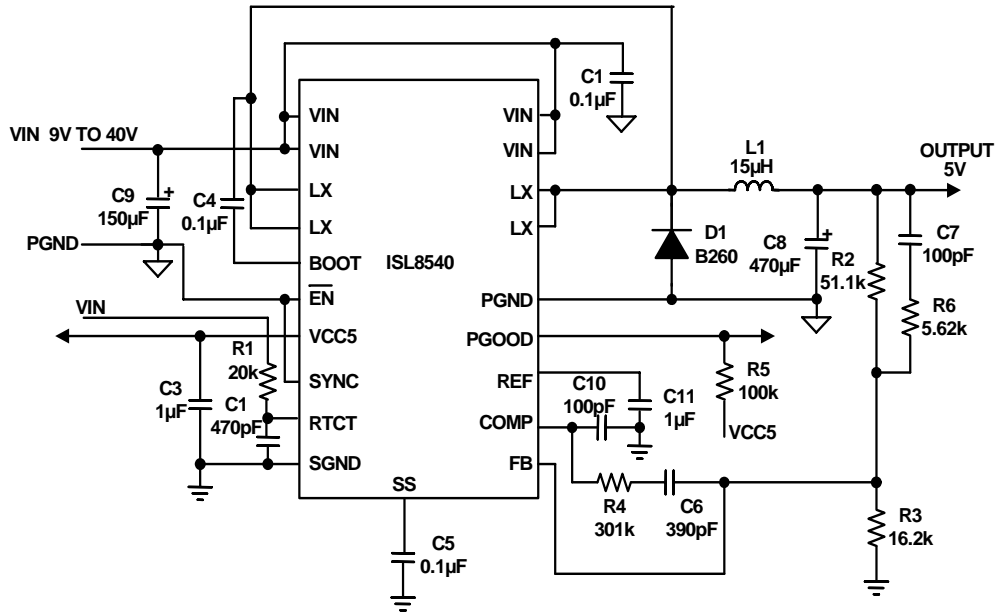

FIGURE 2. TYPICAL SCHEMATIC FOR ISL8540 (5V VOUT)
**Typical Performance Curves** Circuit of Figure 2,  $V_{IN} = 24V$ ,  $\overline{EN} = 0V$ ,  $FS = 500KHz$ ,  $V_{OUT} = 5V$ , unless otherwise noted. Typical values are at  $T_A = +25^\circ C$ .
**Typical Performance Curves** Circuit of Figure 2,  $V_{IN} = 24V$ ,  $\overline{EN} = 0V$ ,  $FS = 500KHz$ ,  $V_{OUT} = 5V$ , unless otherwise noted.
**Typical Performance Curves** Circuit of Figure 2,  $V_{IN} = 24V$ ,  $\overline{EN} = 0V$ ,  $FS = 500kHz$ ,  $V_{OUT} = 5V$ , unless otherwise noted. Typical values are at  $T_A = +25^\circ C$ . (Continued)
**Typical Performance Curves** Circuit of Figure 2,  $V_{IN} = 24V$ ,  $\overline{EN} = 0V$ ,  $FS = 500KHz$ ,  $V_{OUT} = 5V$ , unless otherwise noted. Typical values are at  $T_A = +25^\circ C$ . (Continued)